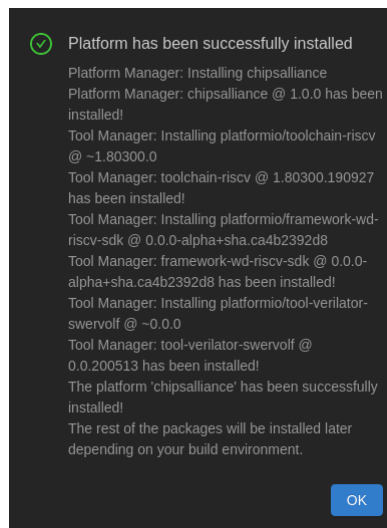

Figure 97. Successful installation of CHIPS Alliance Platform
- Once installation completes, a summary of the tools that have been installed is shown, as in Figure 97. Click **OK** to close that window.